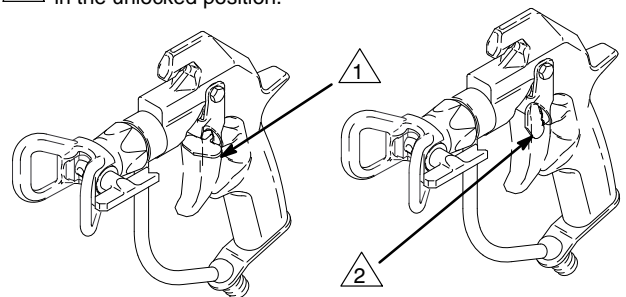

Fig. 1
1. To lock the gun trigger safety, turn the latch to a right angle with the gun body. See Fig. 1.
3. **Relieve the pressure.** Be sure the gun trigger safety is locked. See Fig. 1.